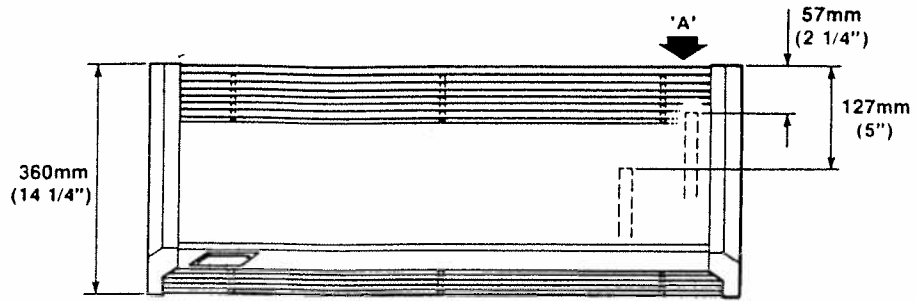

Figure 3
2. The system flow and return pipes should be positioned as shown in fig.3. It is unimportant which of the units pipes is connected to flow or return.